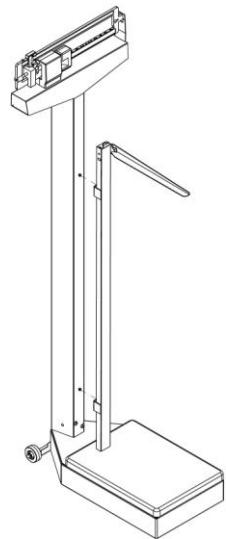

Fig. 3
3. Fix the measuring ruler to the two hexagonal-head screws pre-assembled on the column. (See Fig. 3)